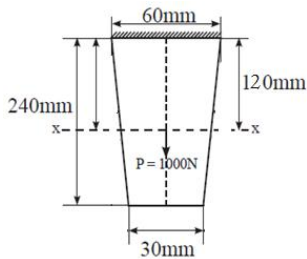

Figure 1
- 1 Figure 1 shows a thin plate of uniform thickness of 1mm, young's modulus  $E = 200\text{GPa}$ , weight density of the plate  $76.6 \times 10^{-6} \text{ N/mm}^3$ . In addition to its weight, it is subjected to a point load of 1000N at its mid-point. Model the plate with 2 bar element.